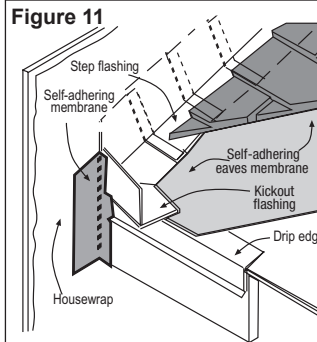

Figure 11
Figure 11, Kickout Flashing* To prevent water from dumping behind the siding and the end of the roof intersection, install a "kickout" of sufficient length and angle to direct the water running down the roof away from the siding.
* The illustration (figure 11) was reprinted with permission of THE JOURNAL OF LIGHT CONSTRUCTION. For subscription information, visit www.jlconline.com.